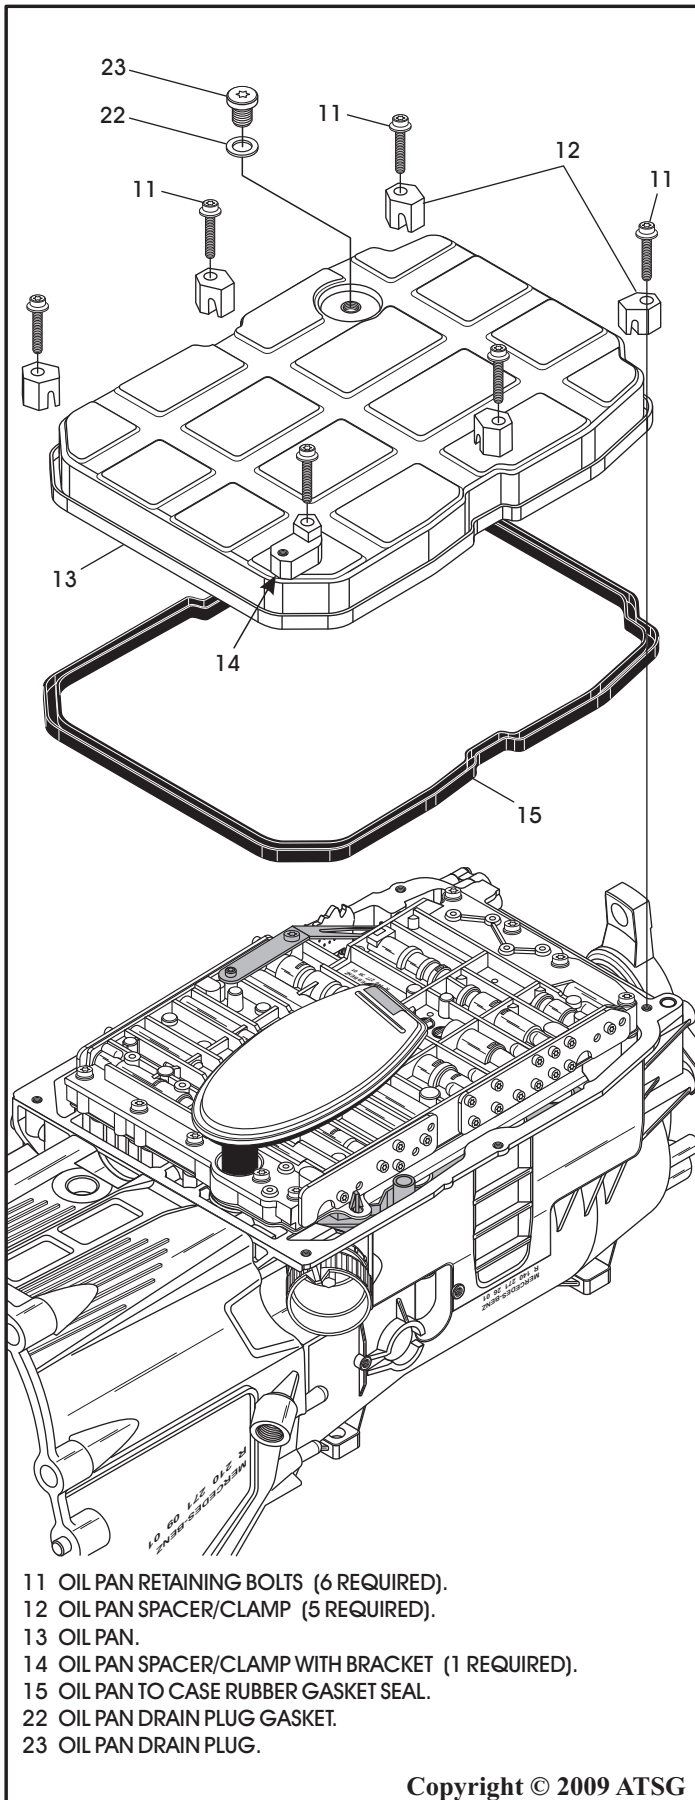

Figure 196
46. Install new gasket on the oil pan drain plug, as shown in Figure 196, install the drain plug and torque to 20 N·m (14.7 ft.lb.).
47. Install a new gasket to the oil pan, as shown in Figure 196, and install oil pan onto transmission.
48. Install the 6 spacers and their bolts, as shown in Figure 196.